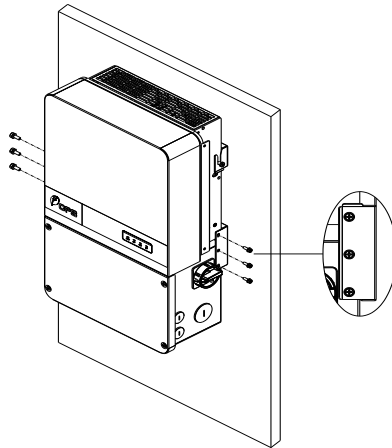

Figure 3-9 Secure the Main Enclosure and Wire-box to the Bracket
4. Attach the main enclosure and the wire-box to the mounting bracket with the **M6x18 screws** (6 pcs). (see Figure 3-9)